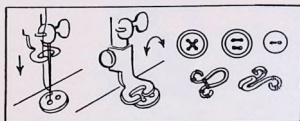

Fig. 28
1. Remove hinged presser foot and attach button sewing foot, see Fig. 28.
3. Turn drop feed knob (J) Page 2, to "Darn."
4. With the button sewing foot in a raised position place button between button sewing foot and fabric so that the holes of the button line up with the needle, as shown in Fig. 28. Turn hand wheel toward you and test to see if the needle enters center of each hole. If not, adjust the zigzag stitch width regulator knob by turning to right or left until the needle clears each hole.